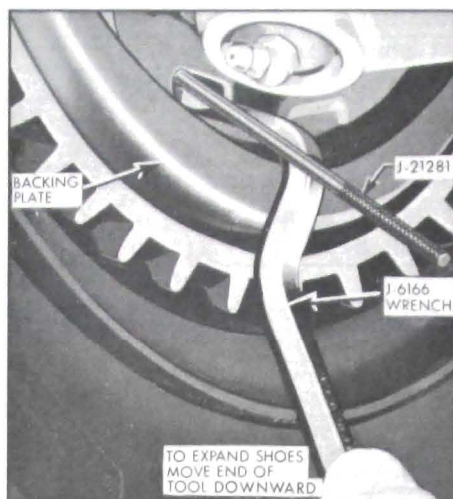

Figure 9-11—Expanding Brake Shoes
1. Remove adjusting hole cover from brake backing plate. Install J-21281 through adjusting hole to move actuator off adjusting screw. Use J-6166 to turn brake adjusting screw, expand brake shoes at each wheel until the wheel can just be turned by hand. Moving end of tool in hand downward expands the shoes. See Figure 9-11. The drag should be equal at all wheels.
NOTE: It may be necessary to back off the brake shoe adjustment before the brake drums can be removed. To back off shoe adjustment, rotate shoe adjusting screw upward. See Figure 9-11.
9. Install J-21381 through adjusting hole to move actuator off adjusting screw. See Figure 9-11.